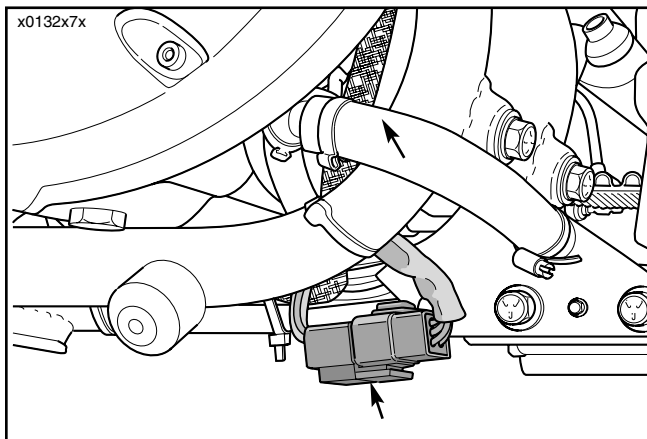

Figure 1. Ignition Module Connector
4. See Figure 1. Remove and disconnect the ignition-module connector, a 6-pin Deutsch connector, from the T-stud on the frame.